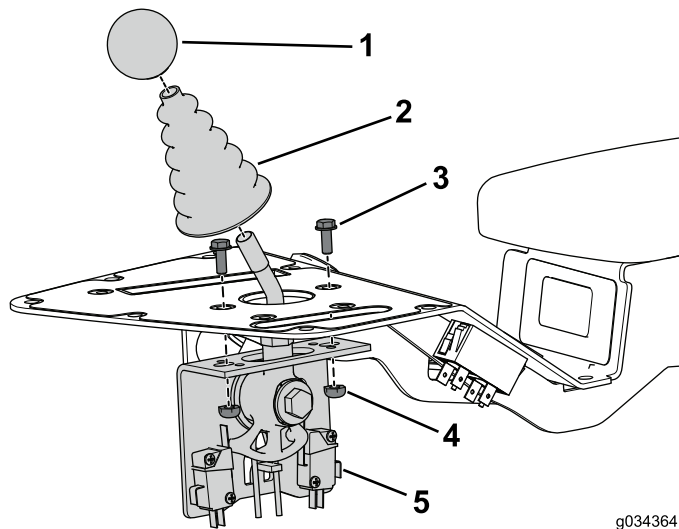

Figure 4
1. Remove and set aside the knob from the mow-control shaft (Figure 4).
2. Remove and set aside the dust boot from the mow-control shaft (Figure 4).
3. Remove and set aside the 2 bolts and nuts securing mow-control assembly to the console assembly (Figure 4).